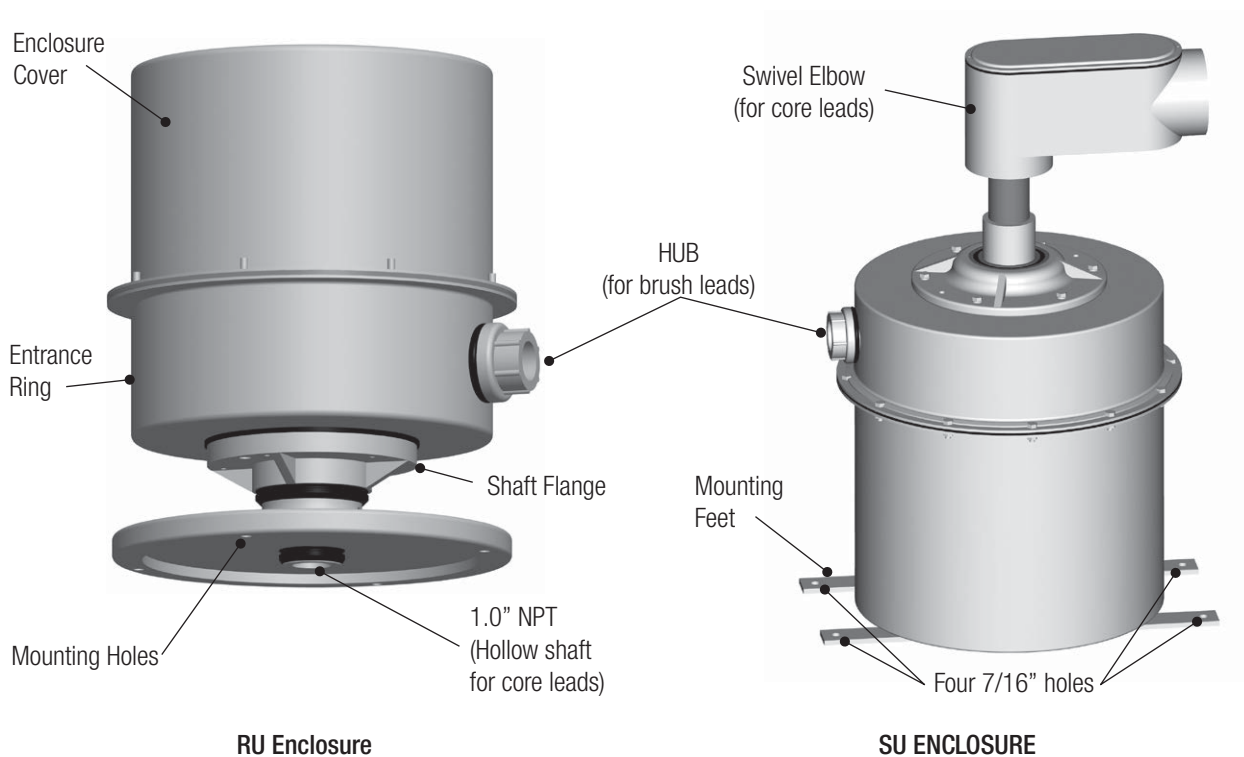

Figure 3-3
3.1.3.3 Electrical leads to brush carriage of slip ring come through the side of enclosure (NPT hub if provided) and connect to screw or bolt connectors on brush holders or terminal strips. Electrical lead connections to the core, come through the middle of the shaft and connect to core leads of the Slip Ring. **See Figure: 3-3**
3.1.4.4 Electrical leads to brush carriage of slip ring come through the side of the enclosure (NPT hub if provided) and connect to brush holders and/or terminal strips. **See Figure: 3-3**